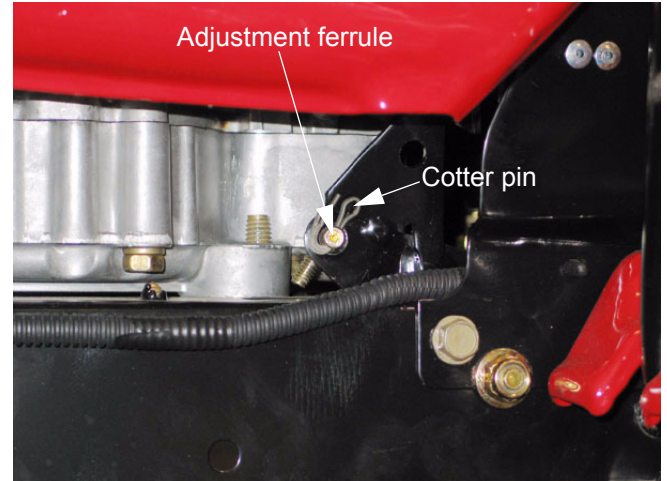

Figure 13.1
- 13.1. Set the parking brake to expose the adjustment ferrule and cotter pin. See Figure 13.1.